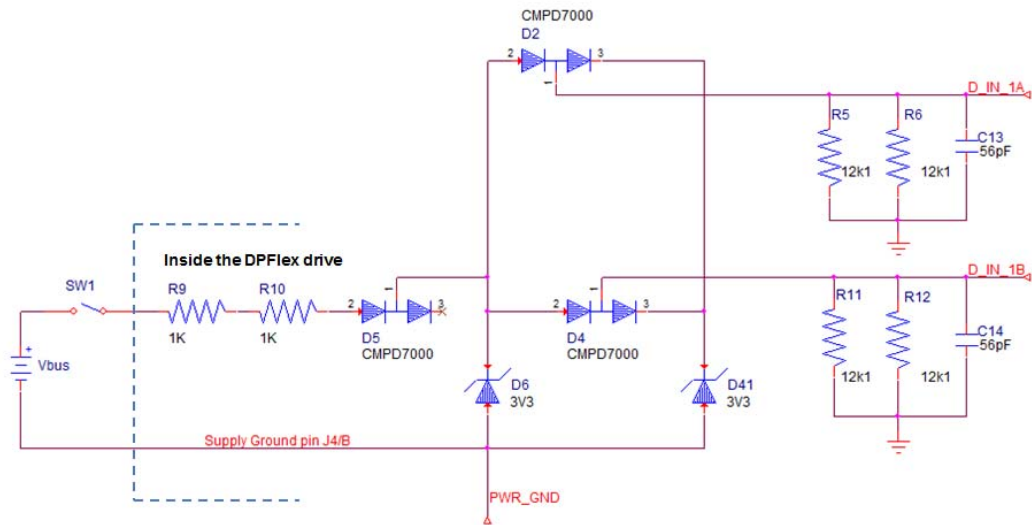

Figure 3: Digital input 1 (motor enable) circuitry (DI 1) generation 1
(2) Digital inputs require isolation if connected to active circuitry. Refer to schematic shown in Figure 3 and